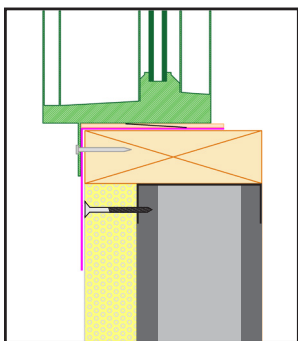

Figure 6. Rough opening "window buck"
- Where the FPIS material is greater than 1½" thick or less than 15 psi compressive strength, or where additional window or door support may be required (e.g., opening width > 6' or design wind load > 35 psf), it is recommended that a rough opening extension be applied to the rough opening. Unless different rough opening extension detailing and materials are required for NFPA 285 compliance based on the type of the building construction, this can be done by use of 2x wood buck (see Figure 6) installed into the rough opening. The window installation and flashing follow the same steps as indicated above. For additional installation guidance on this practice refer to: continuousinsulation.org/window-installation.